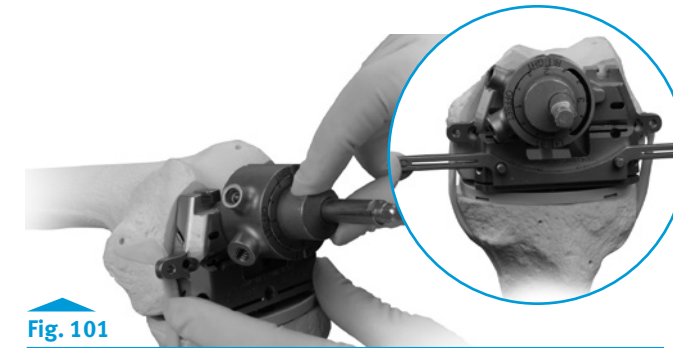

Fig. 101
- Rotate the bushing within the adapter until an optimal position is determined (Fig. 101).
- Insert the tabs of the Revision Rotational Alignment Guide into the posterior cutting slot, and rotate the guide until the handles are aligned with the transepicondylar axis (Fig. 101).